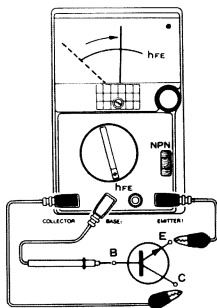

Fig. 8
Connect TR as in Fig. 8. If measured TR is normal the indicator pointer swings to the right side and indicates a certain value. Read it out on the scale ⑤, h_{FE} 0 ~ 1000. This is h_{FE} (I_C/I_B) value.